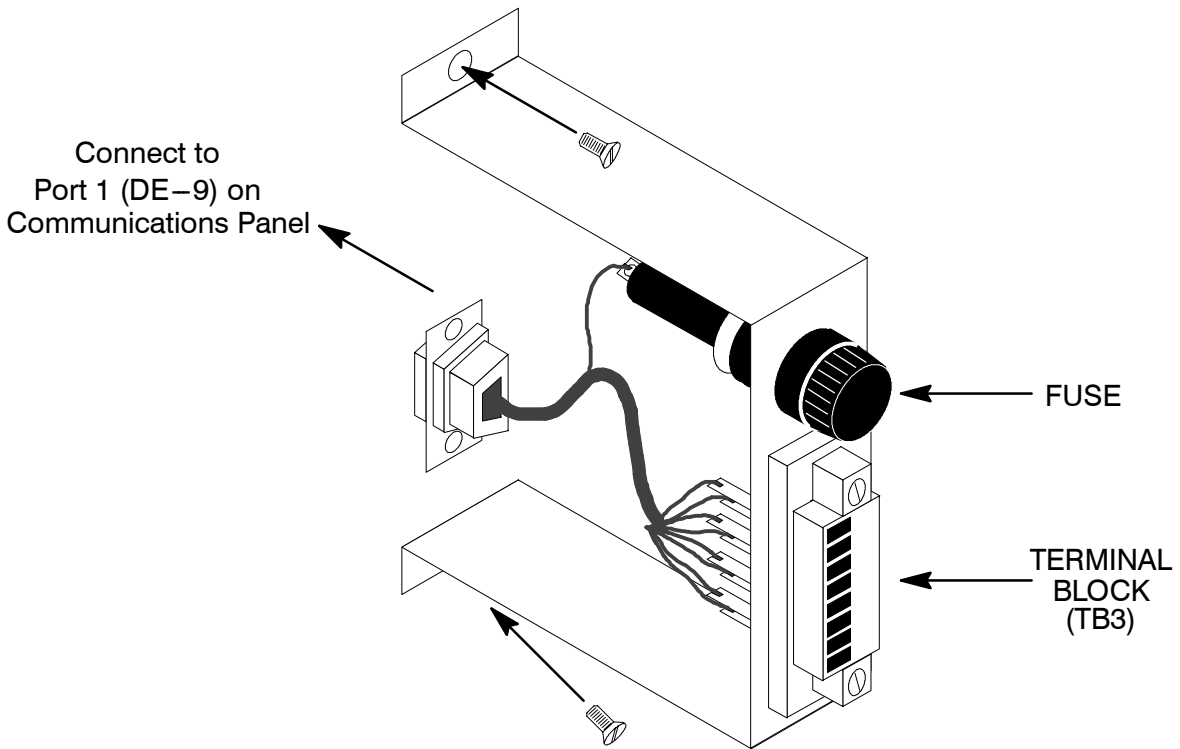
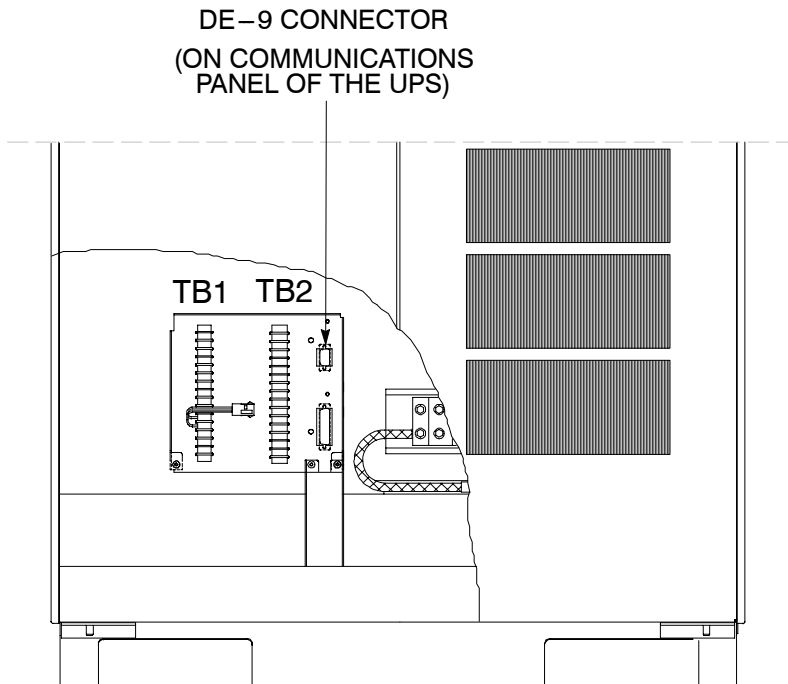

Figure 24. Terminal Block Bracket
Figure 25. Wiring an RIM to the UPS
3. In the spare parts kit locate the RMP Adapter Cable assembly (see Figure 24). Mate the DE–9 connector on the back of the terminal block into the DE–9 connector on the Communications Panel of the UPS (see Figure 25). Use two screws from the spare parts kit to secure the terminal block plate to the Communications Panel.